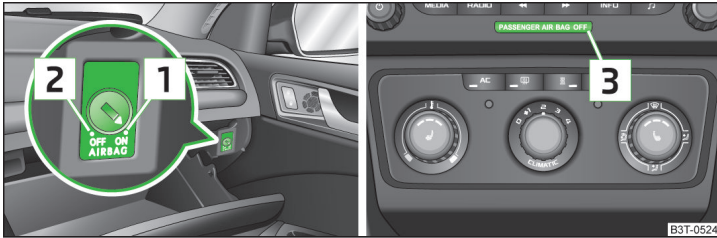

Fig. 13 Key switch for front passenger airbag/warning light for front passenger airbag activation/deactivation
- The OFF   » Fig. 13 on page 20 warning light comes on when the ignition is switched on.
- › Use the key to turn the slot of the key switch into position **2** » Fig. 13 **OFF**.
- › Use the key to turn the slot of the key switch into position **1** » Fig. 13 **ON**.